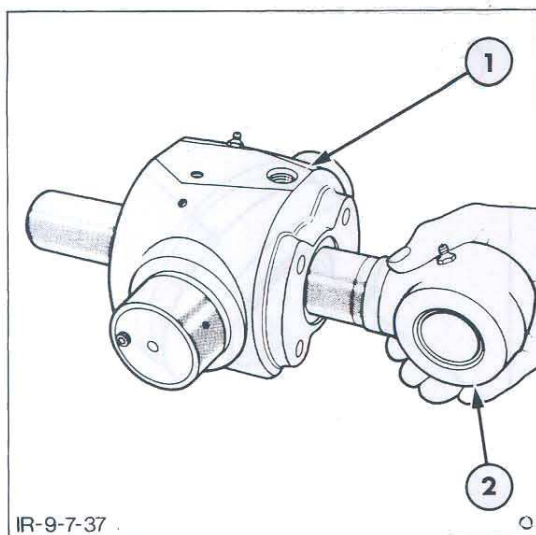

Figure 37
6. Remove the piston and slide the rod out of the headstock/gland assembly, Figure 37.